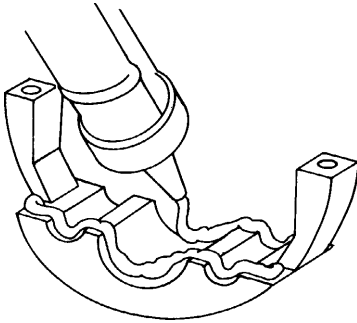

FIGURE 29 - APPLICATION OF SILICONE SEALANT
6.44 Use the tube of sealant and a caulking gun to lay 1/4" (.62 cm) wide beads of silicone lengthwise across seam and 1/4" (.62 cm) from each outside edge. (Figure 29) Silicone should follow down into the contour of each groove. Lay cables in the grooves on top of the sealant.